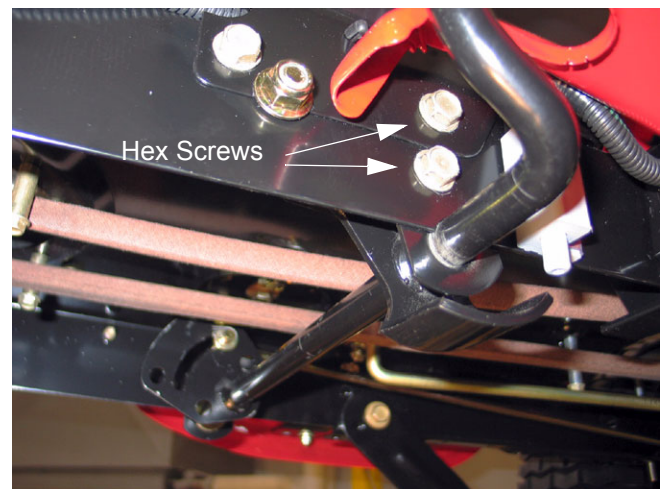

Figure 63
- 16.4. Using a 1/2" socket, remove the hex screws securing the left side of the pedal support bracket to the frame. See Figure 63.